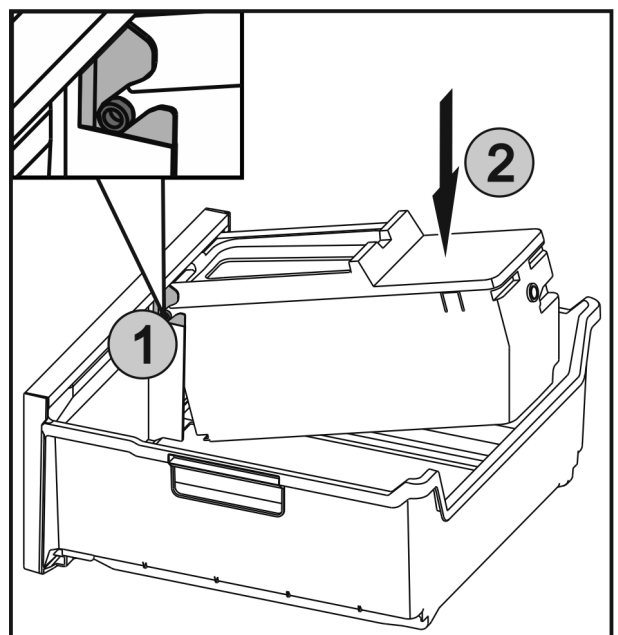

Fig. 50
- ▶ Insert the axles *Fig. 50 (1)* on the EasyTwist-Ice in the guides and push the rear side *Fig. 50 (2)* until the lug engages.